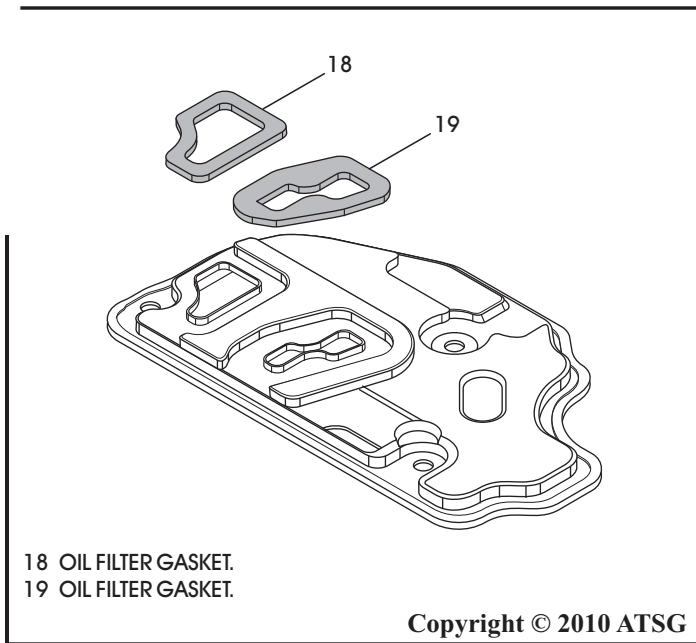

Figure 54
11. If the filter is to be re-used, remove and discard the filter gaskets as shown in Figure 54, as the filter gaskets are included in Transtec® kit.